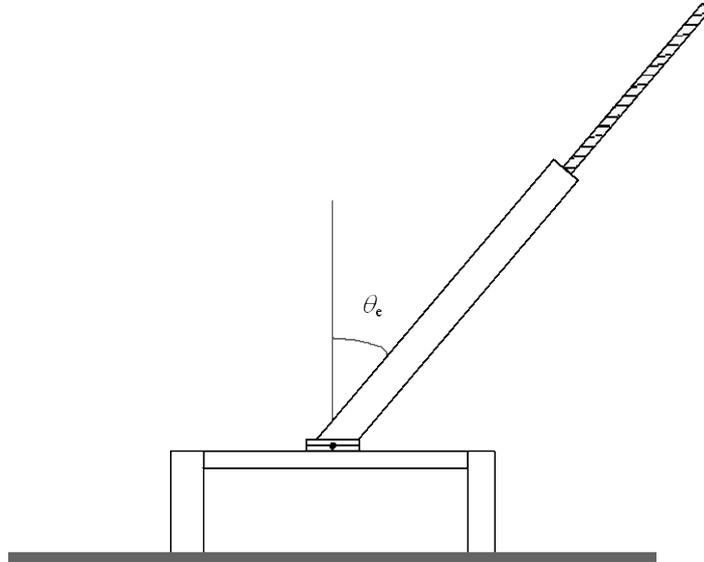

Figure 4: In this measurement set the pendulum so that its equilibrium position deviates from the vertical.
5. In order to determine κ , assemble now the pendulum and set it with its rotation axis horizontal. The threaded rod must initially be as far as possible inside the pendulum. Lock the pendulum to the steel wire, with the hex screw, at about half way between the wire clamps and in such a way that its equilibrium angle (under the combined action of weight and elastic recall) deviates sizeably from the vertical (see figure 4). Measure the equilibrium angle θ_e for several values of x (at least 5). [4 points]